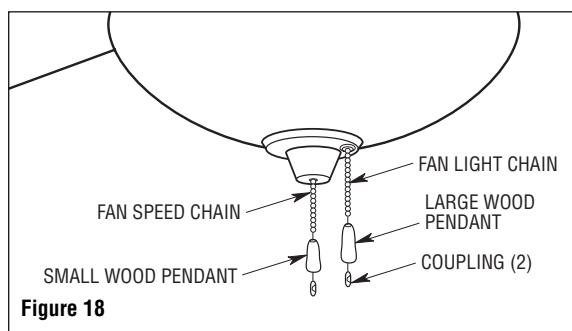

Figure 18
6. Slide the small wood penadant onto the center (fan speed) chain, secure by connecting the coupling to the chain. Slide the large wood penadant onto the off-center (fan light) chain, secure by connecting the coupling to the chain. (Figure 18).